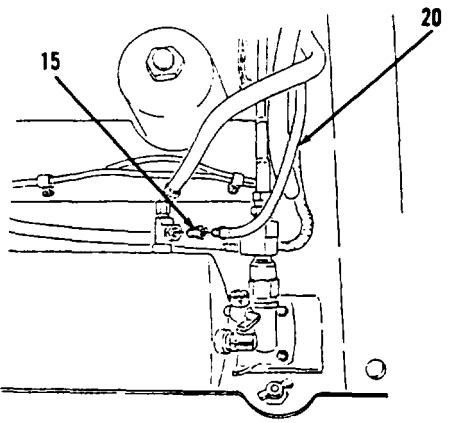
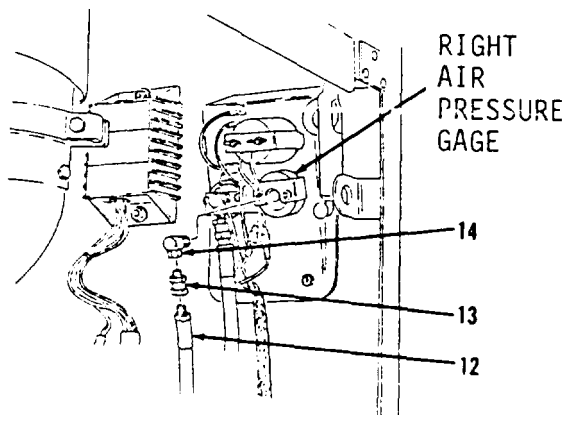

Figure 11-6.
Figure 11-5.
- 11. Install connector (15, Figure 11-6) to air tank.
- 12. Connect hose assembly (20) to connector (15).
- 13. Install elbow (14) and connector (13, Figure 11-5) to right air pressure gage at front, right side of engine compartment.
- 14. Install hose assembly (12) to connector (13).